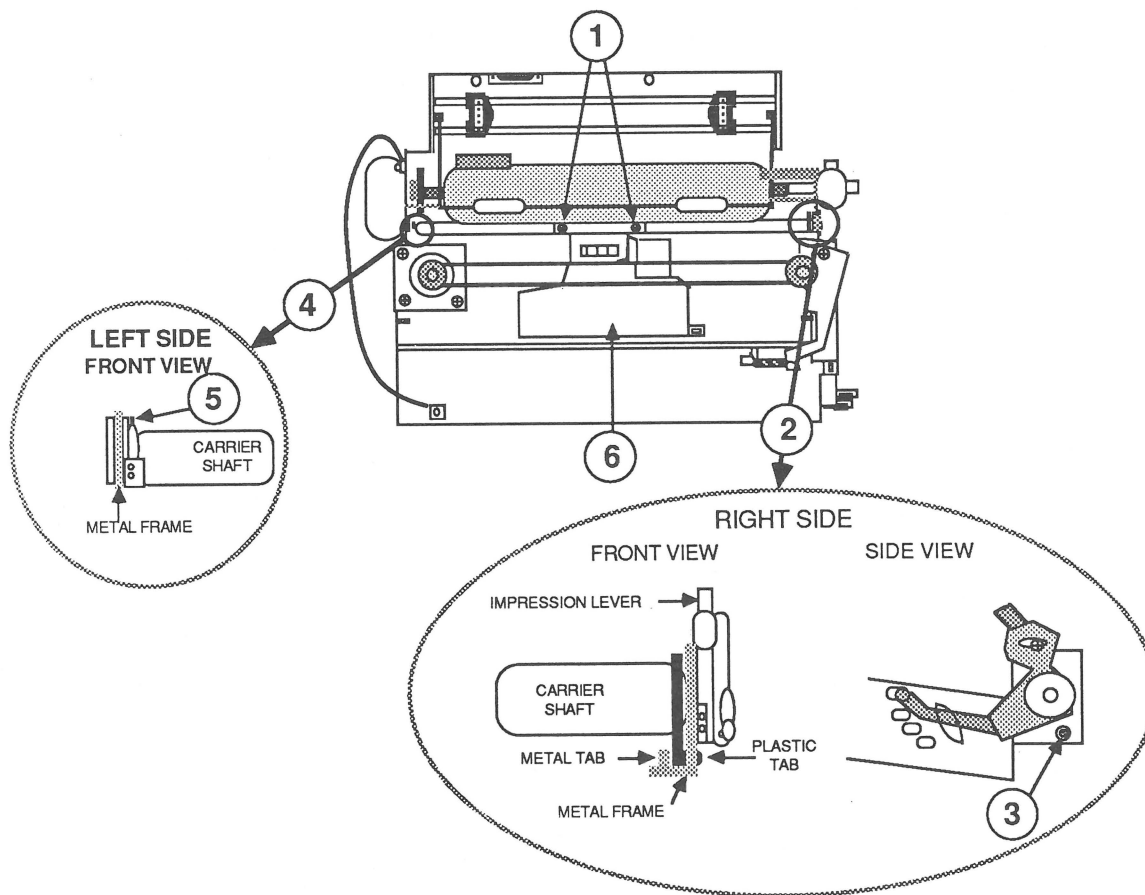

FIGURE 29
6. Remove the two screws holding the clear plastic paper guide (Figure 29, #1).
7. Look at Figure 29, #2, for the connection of the right side of the carrier shaft to the frame. Pry forward the metal tab that is part of the frame.
8. Gently insert a jeweler's flathead screwdriver into the hole in the frame containing the tab (Figure 29, #3). Gently push the tab backward and lift the right side of the carrier shaft free.
9. Look at Figure 29, #4, to see where to connect the left side of the carrier shaft to the frame.
10. Gently push back the metal tab (Figure 29, #5), and slide the carrier shaft to the right until it is free.
11. Pull the back of the carrier assembly (Figure 29, #6) toward the front of the machine to release the tabs holding the assembly in position, and lift up the carrier assembly and the carrier shaft.